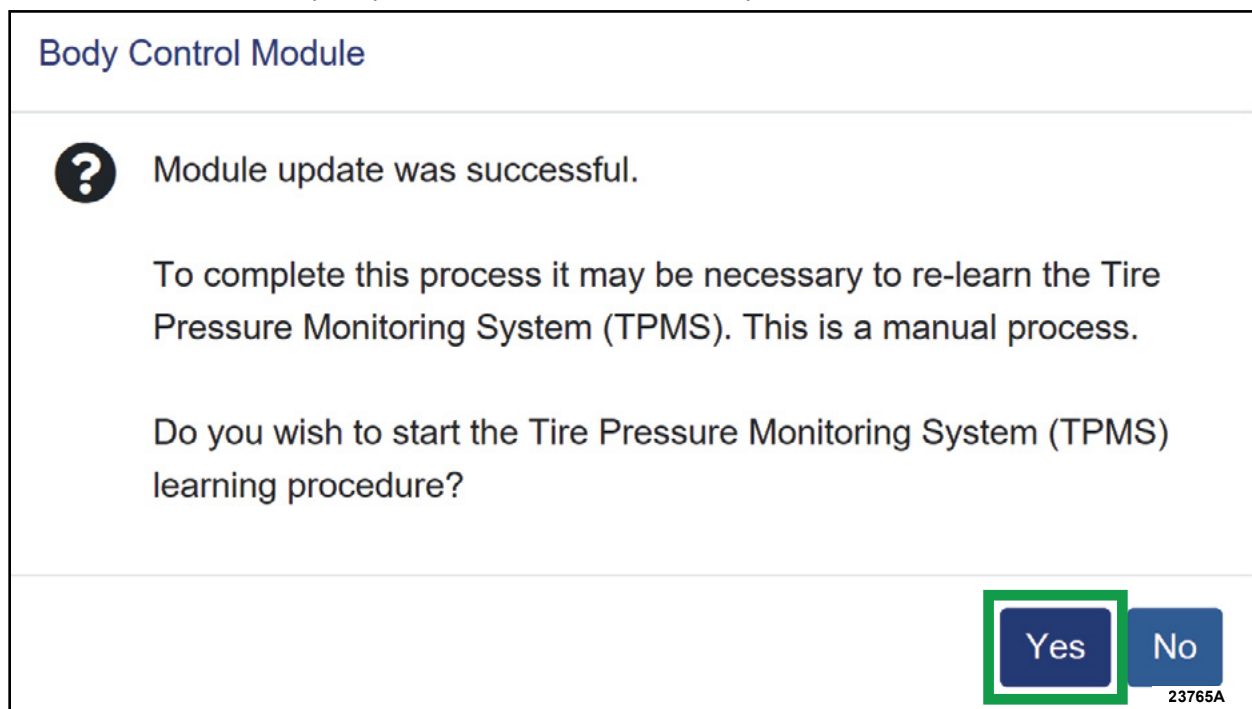

FIGURE 1
11. Re-learn the Tire Pressure Monitor System (TPMS) during the BCM software update. Follow the Workshop Manual (WSM) Procedures in 204-04B. See Figure 1.